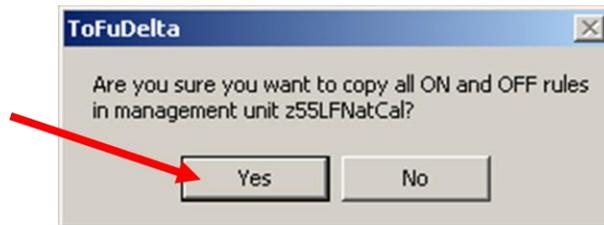

Fig. 6-13. Verify that you want to copy all rules.
- Verify that you want to copy all On and Off rules by clicking **Yes** (fig. 6-13).